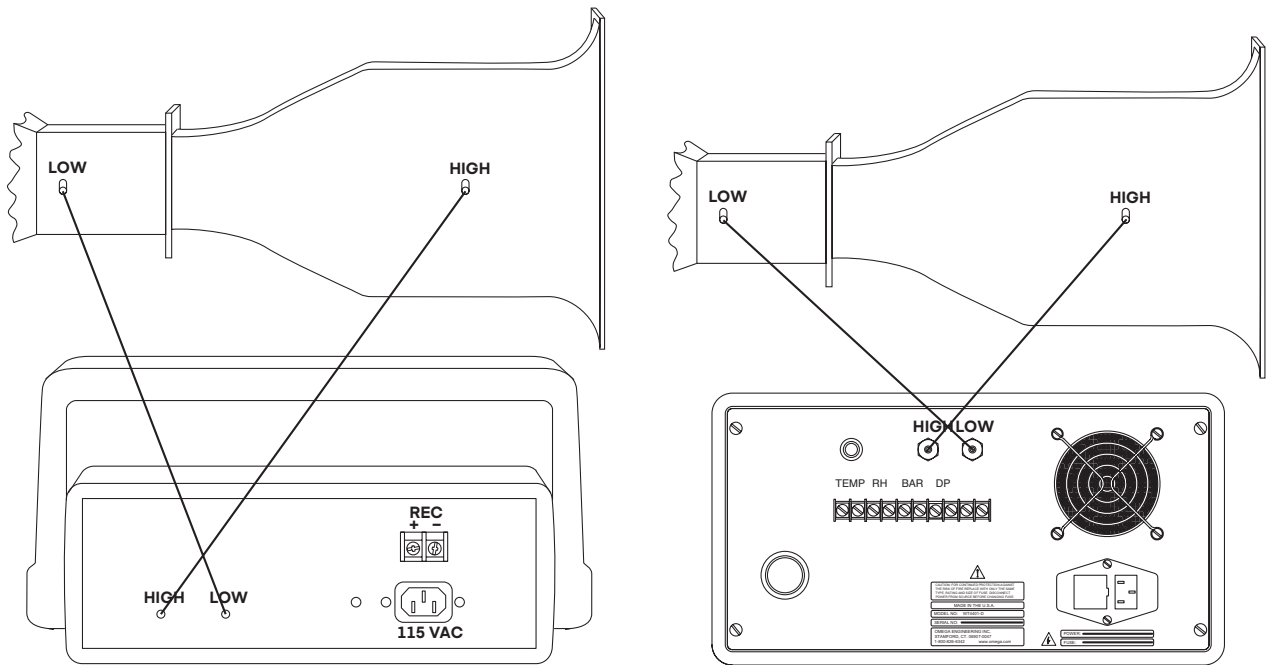

Figure 8: (Left) Tubing Placement with Standard Electronics Box and Wind Tunnel
Step 3: Place the electronics box next to the tunnel. Attach the two (2) pieces of tubing as shown in Figure 8. Also attach the power cord to the rear of the box. DO NOT TURN ON THE ELECTRONICS BOX YET EITHER.